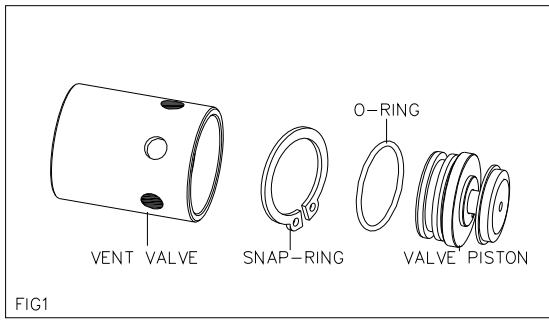

FIG1
3.Third , put a small amount of grease on the o-ring and reassemble(FIG1).